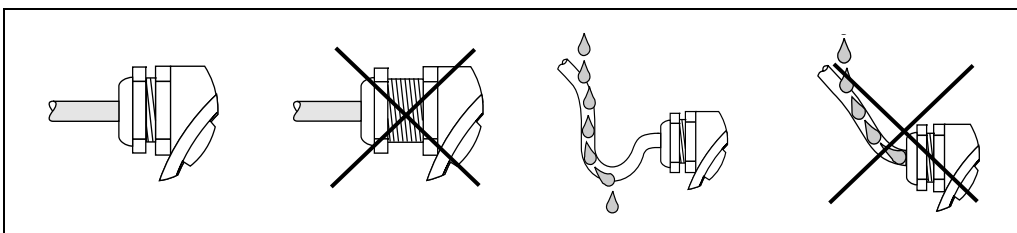

Figure 3
- Firmly tighten the cable entry (see Fig. 3).
- The cables must loop down before they enter the cable entries (“water trap”, Fig. 3). This arrangement prevents moisture penetrating the entry. Always install the measuring device in such a way that the cable entries do not point up.